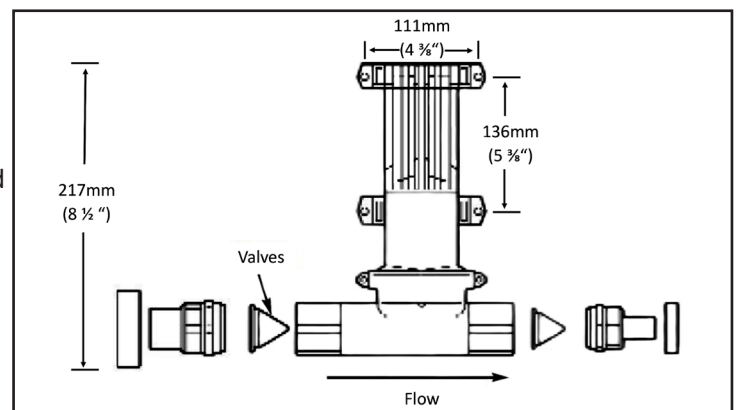

Figure 3 - Gulper Grouper Dimensional Diagram
- Install ports to the pump head (see Fig 3).